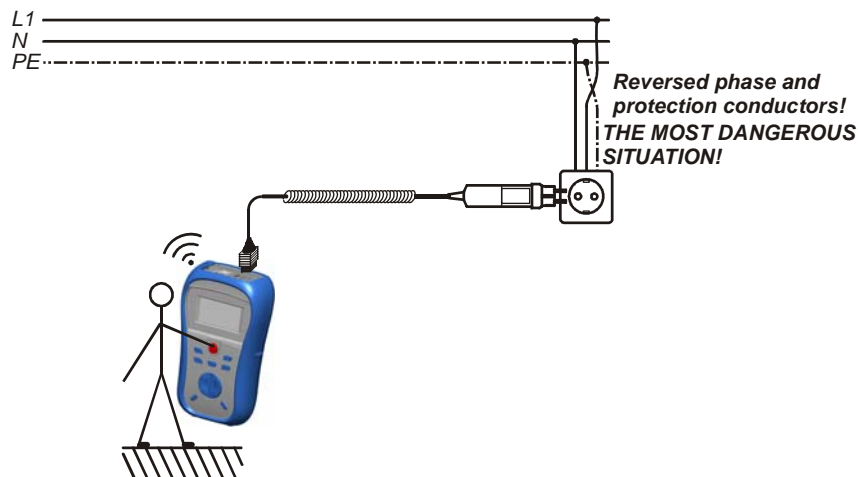

Figure 5.18: Reversed L and PE conductors (application of plug commander)
- ❑ **Connect** test leads to the item to be tested (see *figures 5.18* and *5.19*).